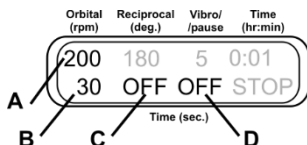

Figure 4.
- 6.9.1. **Orbital motion.** Set the speed (fig. 4/A, 20–250 rpm) and time (fig. 4/B, 1–250 s) of Orbital motion. Turn off Reciprocal motion (fig. 4/C) by setting time of the cycle to zero (OFF). Turn off Vibro motion (fig. 4/D) by setting time of the cycle to zero (OFF).